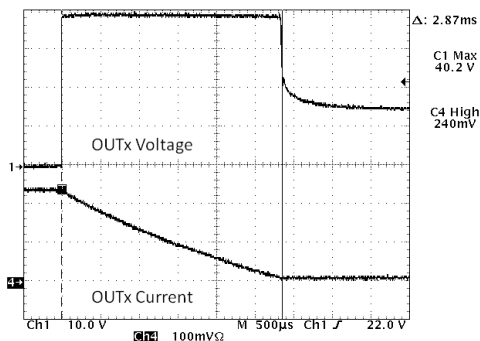

Figure 4. Repetitive Clamping Energy Test
- Testing particulars, 2M pulses, $V_{bat} = 15$ V, 63 Ω, 390 mH, $T_A = 25^\circ\text{C}$. (See Figure 4)